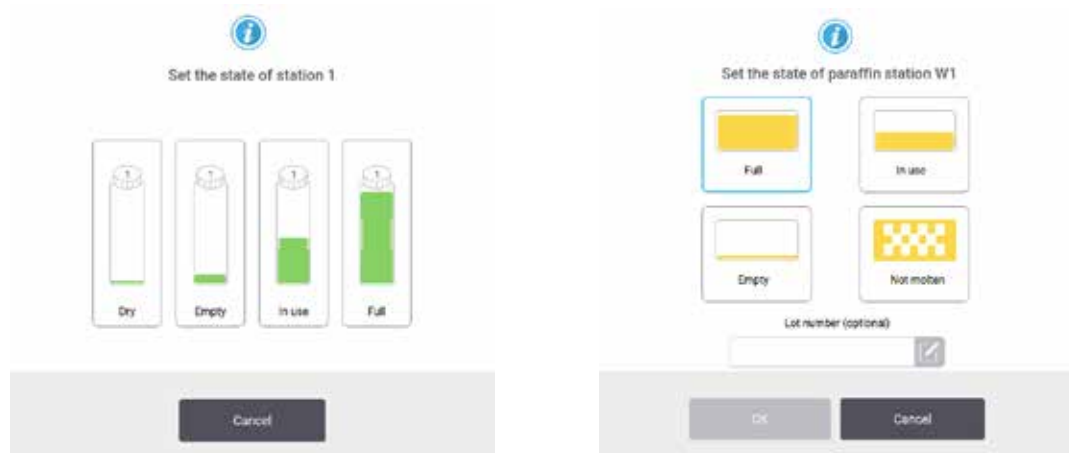

Fig. 73
3. Tap the appropriate icon on the dialog that appears (→ Fig. 73).